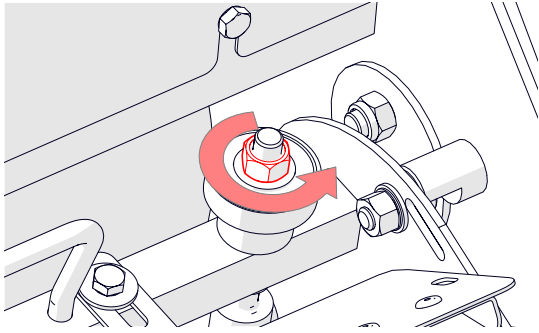

Fig. 22C - Loosen the lock nut
5. Located at each end of a cassette are two shear blade adjusters. On the side being adjusted, loosen the lock nut [9/16" spanner] (Fig. 22C).